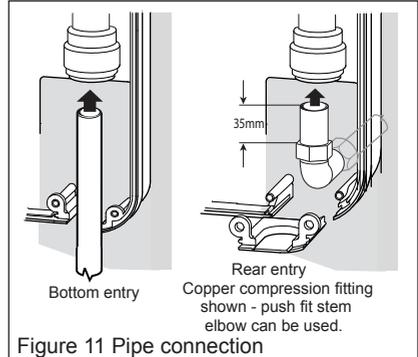

Figure 11 Pipe connection
- 6.9 The handwash has been designed for a 15mm water pipe using the pushfit connection - see Figure 11 on page 12.
- 6.17 Connect the cold water supply pipe to the inlet of the handwash, this is a push fit - see Figure 11.